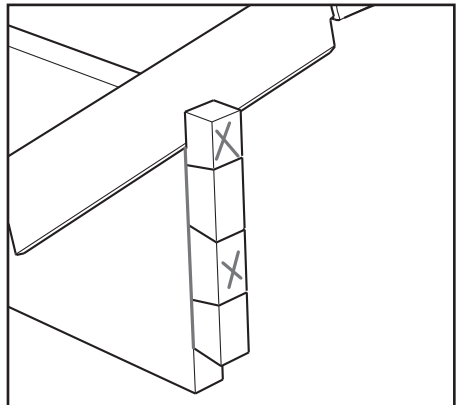

Figure 12: Removing waste material from end of tail board.
12. Saw off the waste areas at each end of the tail board. Begin by scoring the depth line with a sharp knife and then carefully saw on the waste side of the line (**Figure 12**). Be careful not to cut into the tail. Clean up the cut surface with a sharp chisel if necessary.